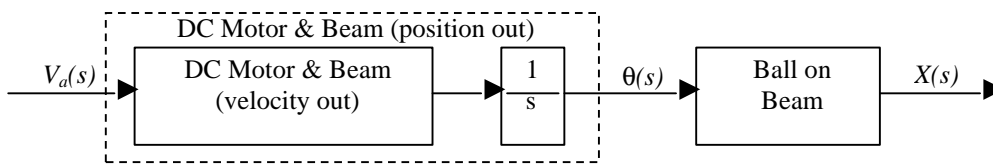

Figure 2: Block Diagram of Motor, Beam, and Ball
2. Add the ball position transfer function $X(s)/q(s)$ to the DC motor model obtained in earlier labs to achieve the motor/beam/ball system shown in figure 2, change the motor inertia J to be that of the motor plus beam $J_{TOTAL} = J_{MOTOR} + J_{BEAM}$, and determine the system transfer function $X(s)/V_a(s)$ in general.